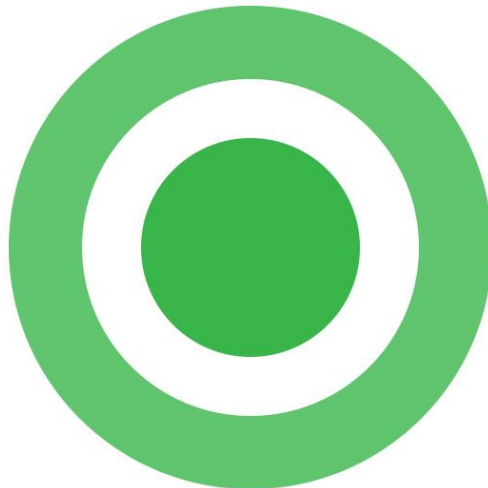

Figure 2-10: HeNe Bullseye Pattern
6. Using clean paper as a screen, check for bullseye in front of the output coupler. Check module rod reflection back to pinhole location 1 with the HeNe. See **Figure 2-10**. If needed, adjust the fold mirror mount to obtain the proper bullseye pattern and module rod reflection back to pinhole location 1 as described below.